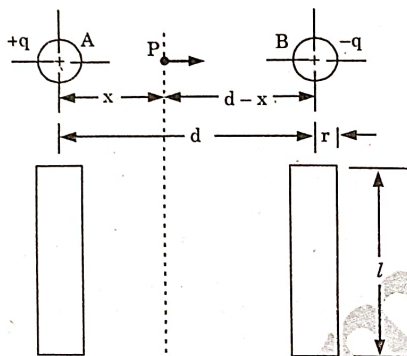

Fig. 2.17.1.
1. Let us consider the two-wire line shown in Fig. 2.17.1,